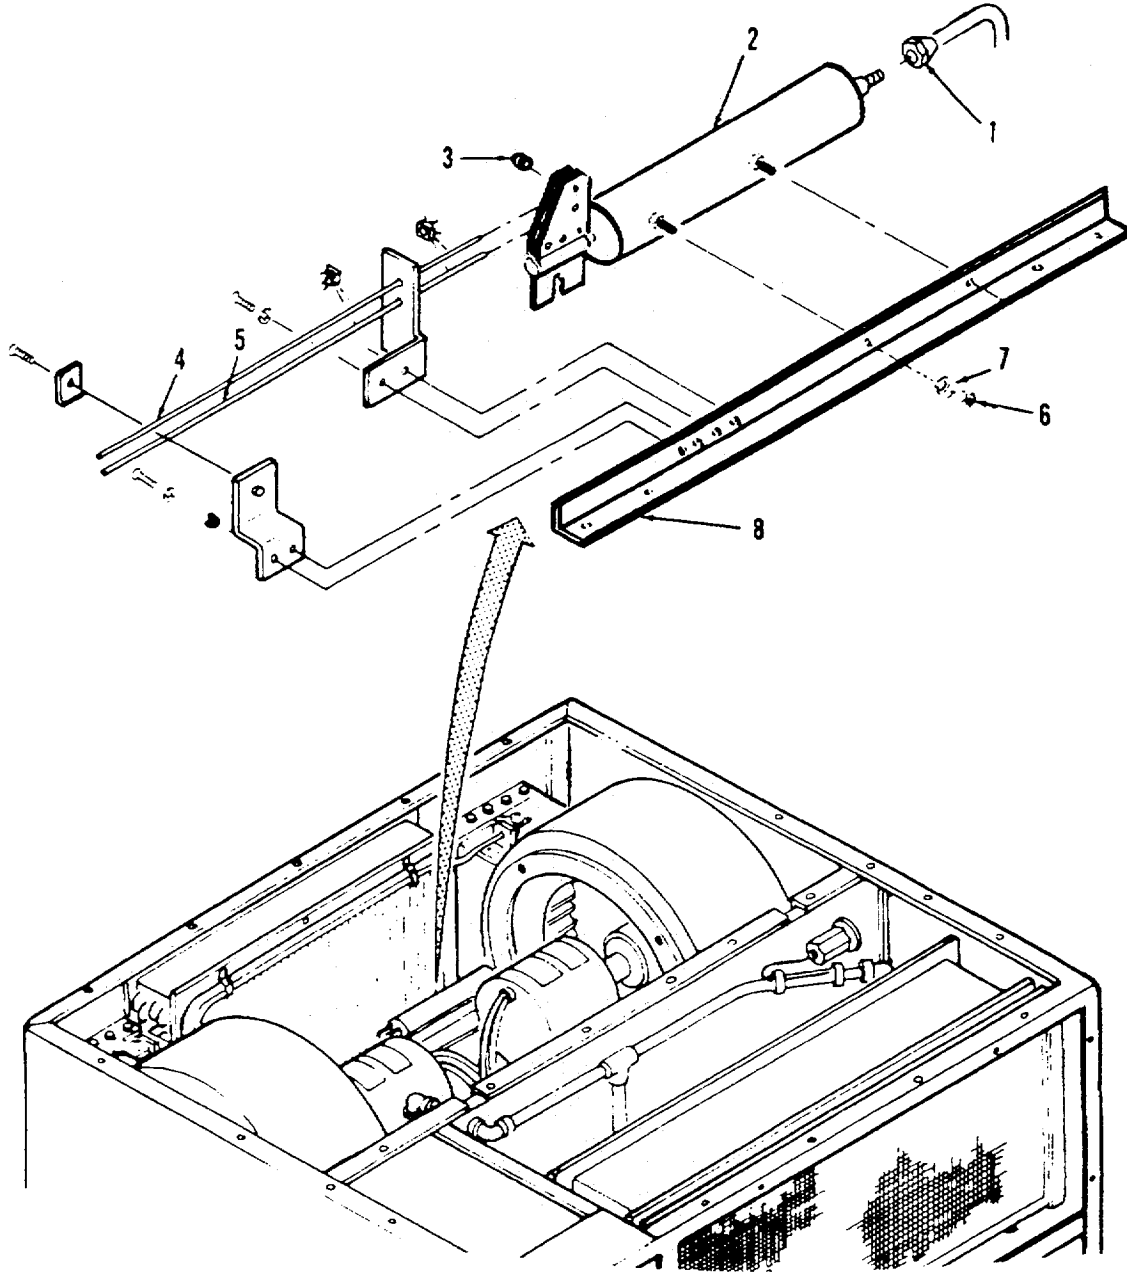

Figure 4-14. Damper Actuator Cylinder.
**a. Removal.** (Refer to Figure 4-14).
- (1) Loosen flare nut (1) on damper actuator cylinder (2).
- (2) Remove two mechanical posts (3) from control assembly cables (4) and (5).
- (3) Remove two nuts (6), two lock washers (7) that secure the damper actuator cylinder (2) to angle (8).
- (4) Remove damper actuator cylinder (2) from unit.